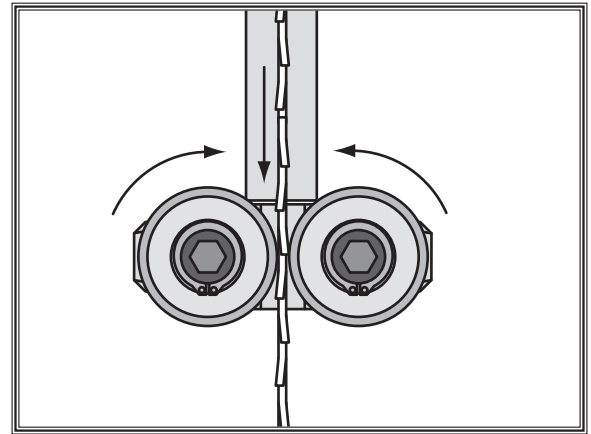

Figure 33. Rotating the blade guide bearings toward the blade.
8. Rotate the upper wheel with one hand, and use the hex wrench to rotate the eccentric guide bearings until they just begin to rotate with the blade (see **Figure 33**). The guides should just lightly touch the blade.